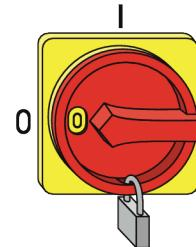

Fig. 8: Securing the main switch
3. ▶ Secure the main switch with a padlock (Fig. 8).